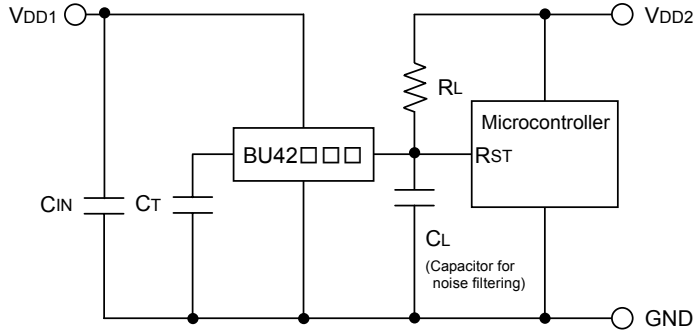

Fig.18 Open collector Output type
CASE1: The power supply of the microcontroller (Vdd2) differs from the power supply of the reset detection (Vdd1). Use the Open Drain Output Type (BU42□□□G/FVE) attached a load resistance (RL) between the output and Vdd2. (As shown Figure 18)